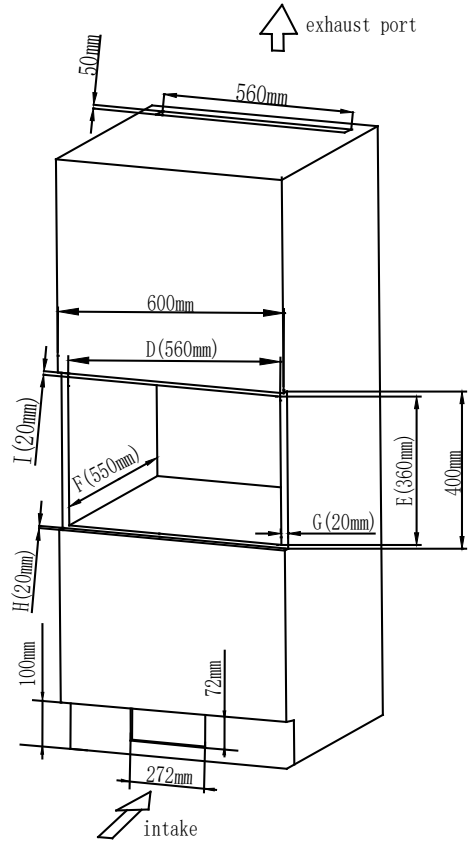

Fig.5
Opening size: (D)560±2 x (E)360±2 x (F)550±2 (mm) as shown in Fig.5